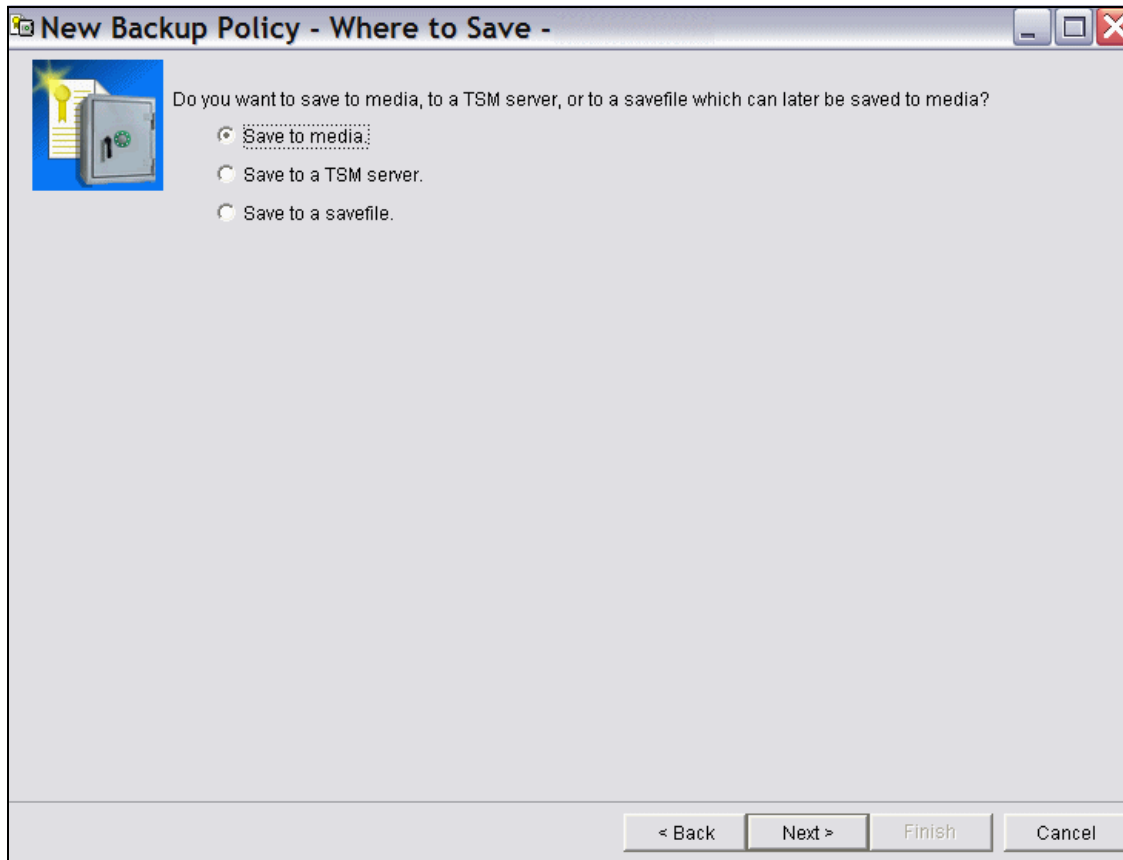

Figure 5-24 BRMS backup policy, where to save
11. In the Where to Save window shown in Figure 5-24 on page 212, select **Save to media**, and click **Next**.